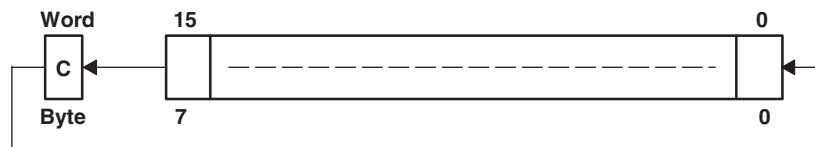

Figure 4-38. Destination Operand—Carry Left Shift
Description The destination operand is shifted left one position as shown in Figure 4-38. The carry bit (C) is shifted into the LSB, and the MSB is shifted into the carry bit (C).